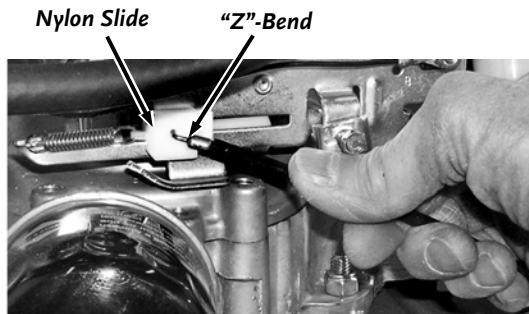

Figure 8
3. Insert the "Z"-Bend of the Cable end into the hole in the Nylon Slide on the side of the carburetor (**Figure 8**).